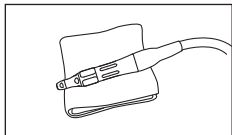

Fig. 8
- 4) Wipe the exterior of the handpiece clean using a cloth moistened with disinfectant or ethanol with a concentration of 60-90%. (Fig. 8)